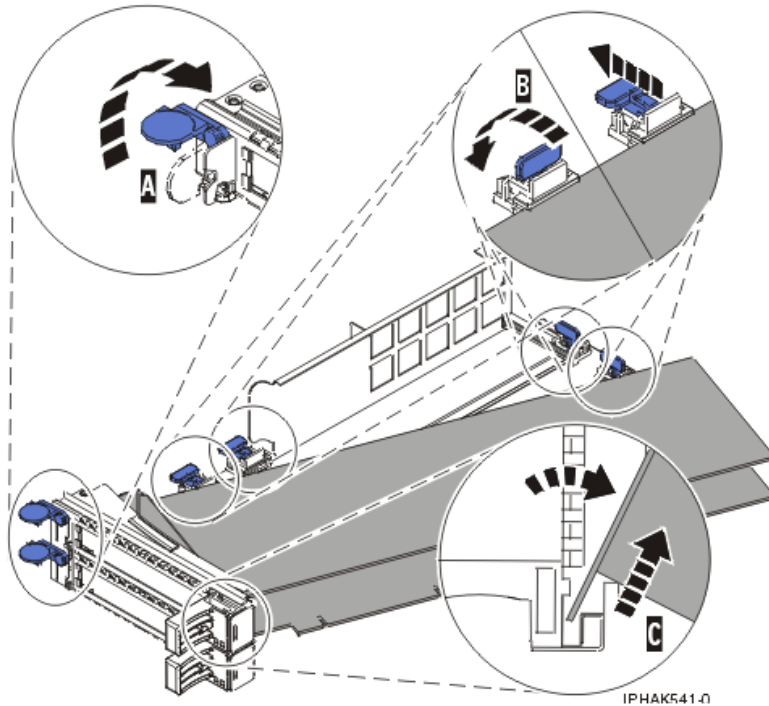

Figure 28. Adapter removed from the PCI adapter cassette
- d. Unscrew pivot pin (C) and put it in a safe place
- a. Unlock the adapter retainers by rotating the retainer clip (A) into the horizontal position. See Figure 28 on page 45.